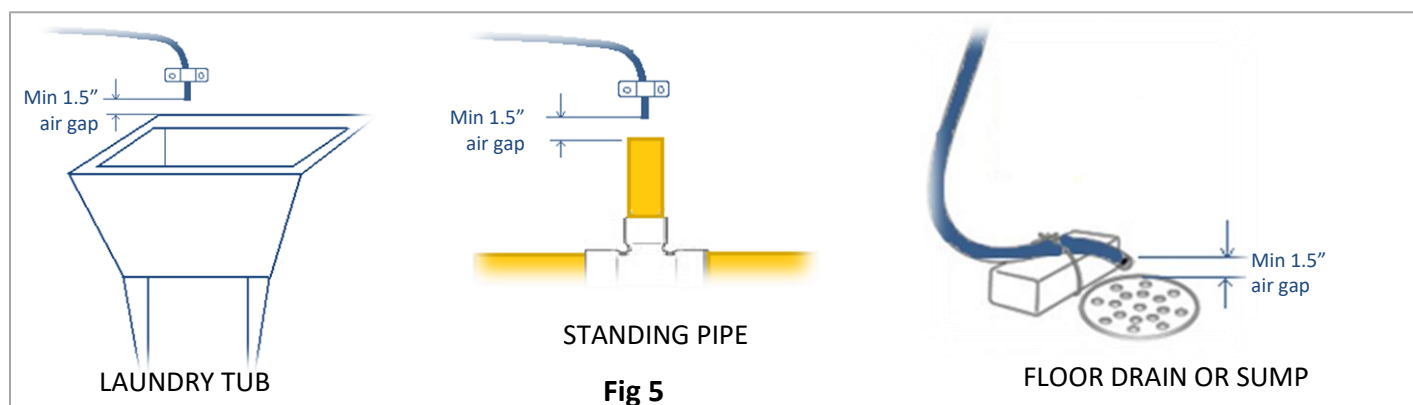

Fig 5
- Run the drain line to a nearby laundry tub, standing pipe or floor drain (**Fig 5**) and cut off excess tubing.
**NOTE ABOUT DRAIN LINE :** You can run the drain hose from the unit to the ceiling joists (max 8 ft ceiling) and run it to the nearest laundry tub or drain pipe. This can be run up overhead or down along the floor. Use band clamps to hold the drain tubing in place. If running drain line more than 15 feet from the softener (max 25 ft), increasing the line size to 3/4" will be required. Please follow your local plumbing & other applicable codes for where to run softener discharge water. **NEVER MAKE A DIRECT CONNECTION INTO A WASTE WATER DRAIN. A PHYSICAL AIR GAP OF AT LEAST 1.5" SHOULD BE USED TO AVOID BACTERIA AND WASTEWATER TRAVELING BACK THROUGH THE DRAIN LINE INTO THE SOFTENER** (see fig 5). If you have other water conditioners, such as an iron filter, carbon filter, tannin filter etc., **RUN THE DRAIN TUBING FOR EACH UNIT SEPARATELY. DO NOT TEE (COMBINE) DRAIN TUBING FROM OTHER UNITS.**
- Attach the rest of the drain tubing to the overflow fitting and run to the floor drain with an appropriate air gap, as shown in fig 5. If you do not have any more drain tubing left, you will need to purchase extra tubing at your local plumbing retailer. **WARNING : DO NOT TEE THE OVERFLOW TUBING TO THE DRAIN TUBING**